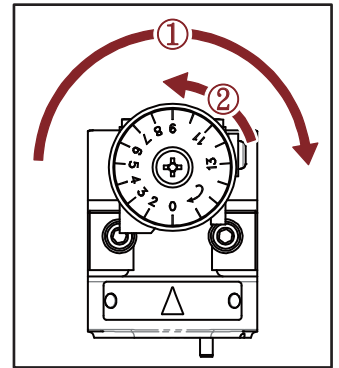
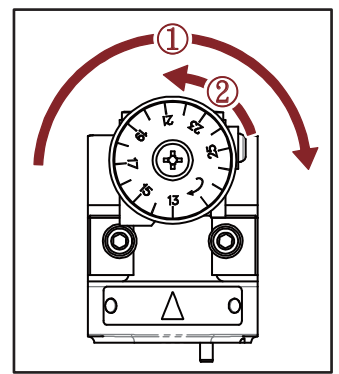

Fig. 7-1
Fig. 7-2
- Right Positioning Shelf:  $\Phi 2.0$  mm -  $\Phi 13.0$  mm (Fig. 7-1)
- ① Turn it by clockwise to the end.
- ② Turn it by counterclockwise at "0".
- Left Positioning Shelf:  $\Phi 13.1$  mm -  $\Phi 20.0$  mm (Fig. 7-2)
- ② Turn it by counterclockwise at "13".